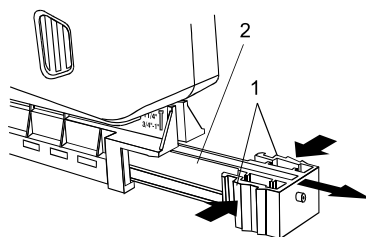

Fig. 3
2. Squeeze the cartridge latch (1) (see Fig. 3).
3. While squeezing the cartridge latch, slide the cartridge (2) outward.
2. Squeeze the cartridge latch (1) (see Fig. 3 on previous page).
3. While squeezing the cartridge latch, slide the cartridge (2) outward until it is removed from the tool.